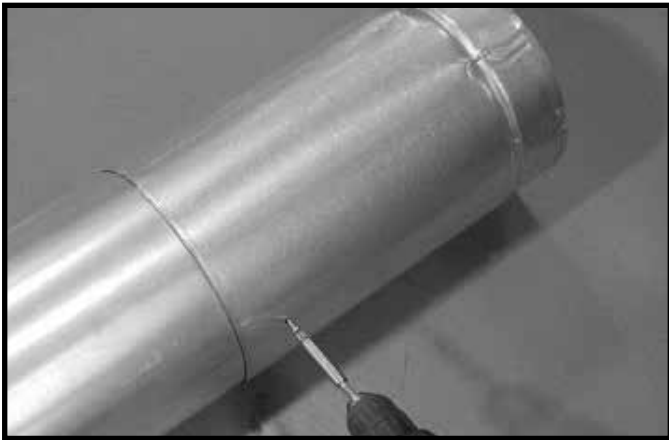

Figure 10.4 Screws into Slip Section
- Secure the pipe and slip section with two screws no longer than 1/2 in. (13 mm), using the pilot holes in the slip section. See Figure 10.4.